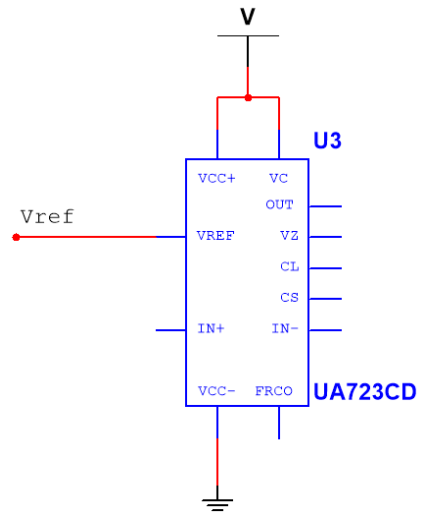

Fig 9.2: Circuit Connection for testing IC 723.
1. Setup the circuit as shown in Figure 9.2. Apply DC voltage, $V = 10V (> V_{\text{ref}})$. Check voltage at pin 6. A voltage of 7.15V at this pin ensures that 723IC is intact.